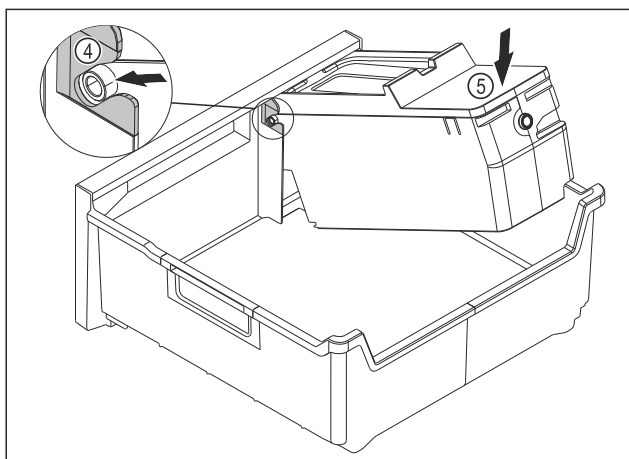

Fig. 109
- Installing the EasyTwist-Ice body: Push the axes for the EasyTwist-Ice body into the guides Fig. 109 (4).
- Press the EasyTwist-Ice body Fig. 109 (5) down at the back.